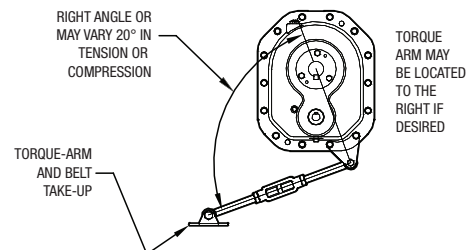

Figure 4 - Angle of Torque-Arm
8. If using a plate steel fulcrum, the sides may pull together when tightening the provided bolt connecting the fulcrum and tie rod. Be sure to leave at least a 0.005 inch gap on both sides between the tie rod eye and the fulcrum. This is not a concern with a cast iron fulcrum. Install the fulcrum so that the torque arm will be approximately at right angles to the center line through the driven shaft and the torque arm fulcrum screw (Figure 4). Make sure that there is sufficient take-up in the turnbuckle for belt tension adjustment when using V-belt drive.